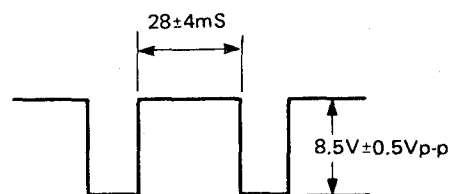

Figure 78.
2. Observe the output of TP-705 on oscilloscope (internal trigger), and check its values are as shown in Fig. 78.